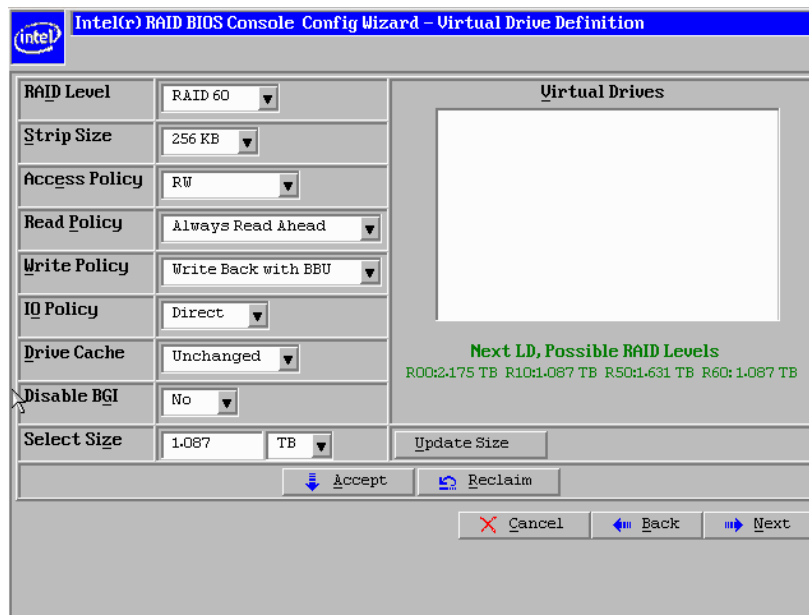

Figure 21. Intel® RAID BIOS Console 2 Configuration Wizard – virtual drive definition example for RAID 10
10. Set the parameter values for the virtual drive definition (Figure 21). Specifically, set the RAID Level to RAID 10, 50, or 60 and then click on **Update Size**. For information on setting these and other parameters, see section 5.1.9.